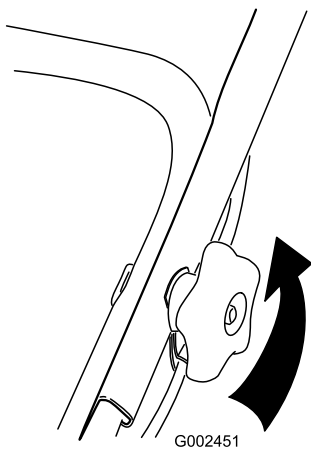

Figure 52
1. Loosen the handle knobs until you can move the upper handle freely (Figure 52).